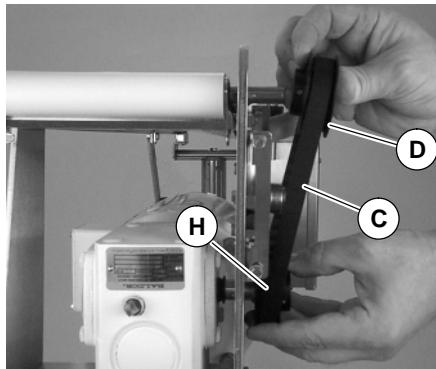

Figure 6
5. Wrap timing belt (C of Figure 6) around driven pulley (D) and drive pulley (H). Attach driven pulley (D) to conveyor shaft.